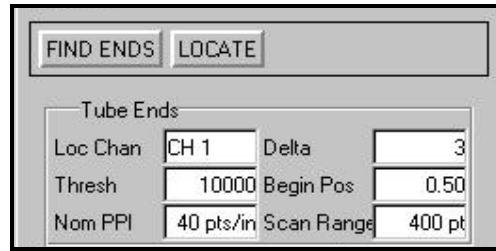

Figure 3-108. Auto Locate Dialog - Buttons & Tube Ends Section
The **Auto Locate** dialog contains two (2) buttons as shown in Figure 3-108. The functions of these buttons and the fields located in the **Tube Ends** section are discussed below.
- ❑ **Auto Locate > FIND ENDS Button:** Clicking the **FIND ENDS** button on the **Auto Locate** dialog shown in Figure 3-108 causes the software to attempt to locate the tube end(s) of the currently located data file based on the settings in the **Tube Ends** section.
- ❑ **Auto Locate > LOCATE Button:** Clicking the **LOCATE** button on the **Auto Locate** dialog shown in Figure 3-108 causes the software to attempt to locate & label all landmarks that have been *trained*.
- ❑ **Auto Locate > Tube Ends > Loc Chan:** Clicking or right-clicking in the **Loc Chan** field on the **Auto Locate** dialog shown in Figure 3-108 increments or decrements the eddy current channel the software will use to locate the tube end(s) of the currently located data file. Choose a channel that has high sensitivity to the tube end exit signal such as a high frequency differential channel.
- ❑ **Auto Locate > Tube Ends > Thresh:** Clicking or right-clicking in the **Thresh** field on the **Auto Locate** dialog shown in Figure 3-108 increments or decrements the tube end threshold value by increments of ten. Holding down the **Shift** key while clicking or right-clicking changes the value in increments of one hundred. The value range is from 1 to 30,000. The software uses this value to locate the tube end(s) of the currently located data file. Choose a starting value in the center of the range, i.e., 15,000, and click the **FIND ENDS** button. If the software correctly locates and labels the tube end(s), then no further adjustment should be required. If the software doesn't locate the tube end(s), then decrease the **Thresh** value by 1,000 and try again. Continue this process until the software correctly locates and labels the tube end(s). If the software incorrectly locates and labels signals other than the tube end(s), increase the value in increments of 1,000 until the tube end(s) are located correctly. The **Loc Chan** may have to be changed to a different channel in order to find the best combination.
- ❑ **Auto Locate > Tube Ends > Nom PPI:** Clicking or right-clicking in the **Nom PPI** field on the **Auto Locate** dialog shown in Figure 3-108 increments or decrements the value by one. Holding down the **Shift** key while clicking or right-clicking changes the value in increments of ten. **PPI** is an abbreviation for *points-per-inch*. This value is used to calculate the location of the remaining landmarks after a minimum of two (2) landmarks have been located - typically, the tube ends. After two (2) valid landmarks are located and labeled (either automatically or manually) in the landmarks strip on the **Main Analysis** screen, moving the cursor between these landmarks causes the software to report the nominal data points-per-inch in the status bar along the bottom of the **Main Analysis** screen. Adjusting the **Nom PPI** value on the **Auto Locate** dialog to a similar value may improve the auto-locating function for the current data set.
- ❑ **Auto Locate > Tube Ends > Delta:** Clicking or right-clicking in the **Delta** field on the **Auto Locate** dialog shown in Figure 3-108 increments or decrements the value by one. Holding down the **Shift** key while clicking or right-clicking changes the value in increments of ten. The value ranges from 1 to 20. In most cases, the default setting of 3 is adequate. The **Delta** function is used to improve auto-locating in cases where significant background noise may be encountered in a data set. The **Delta** function averages background noise, which helps to separate the landmark responses from the noise there by making the landmarks more prominent and easier for **Auto Locate** to detect. Basically, the higher the noise level, the higher the **Delta** value may have to be adjusted.
- ❑ **Auto Locate > Tube Ends > Begin Pos:** Clicking or right-clicking in the **Begin Pos** field on the **Auto Locate** dialog shown in Figure 3-108 increments or decrements the value by increments of 0.05 or 5%. Holding down the **Shift** key while clicking or right-clicking changes the value in increments of 0.5 or 50%. The value ranges from 0.05 to 0.95 or 5% to 95%. In most cases, the default setting of 0.5 (50%) is adequate. **Begin Pos** defines the location within a data file where **Auto Locate** begins its landmark search. To have **Auto Locate** begin its landmark search in the middle of a data file, set this value to the default setting of 0.5. **Auto Locate** searches from the **Begin Pos** in both directions simultaneously. If the files of a given data set consistently have long *dead periods* recorded at the beginning or end of each file, then the **Begin Pos** value can be adjusted accordingly to help compensate and improve auto-locating. *Dead periods* are instances where eddy current data is being recorded, but the probe is not yet in motion.
- ❑ **Auto Locate > Tube Ends > Scan Range:** Clicking or right-clicking in the **Scan Range** field on the **Auto Locate** dialog shown in Figure 3-108 increments or decrements the value by one. Holding down the **Shift** key while clicking or right-clicking changes the value in increments of ten. The value ranges from 1 to 1,000. In most cases, a default setting of 300 is adequate. This value represents the number of data points **Auto Locate** uses during its landmark search. Too small a **Scan Range** value and some landmarks may be missed while too large a value may cause **Auto Locate** to mislabel some landmarks. A good practice is to find the low value where the landmarks *hit*, then find the high value where the landmarks still *hit*, then set the **Scan Range** value in the center of this range.